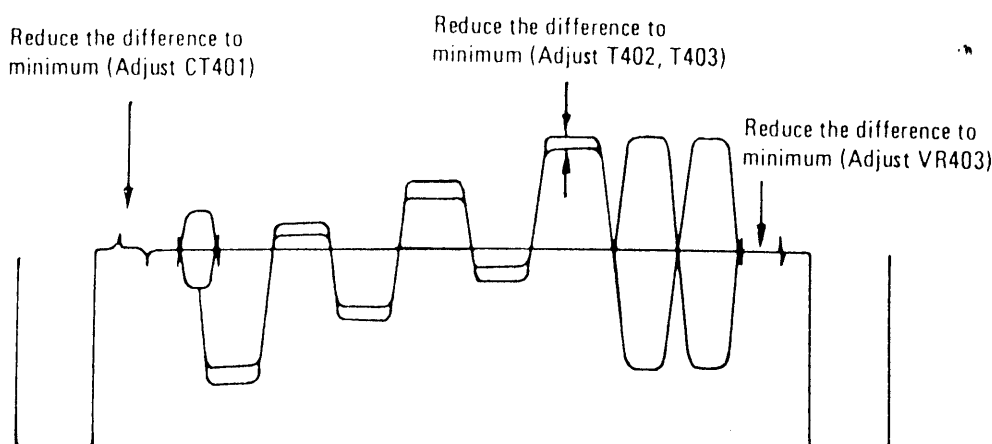

Fig. 10
5. Adjust CT401 to obtain the waveform as in Fig. 10
4. Adjust T402, T403 and VR403 to obtain the waveform as in Fig. 10.